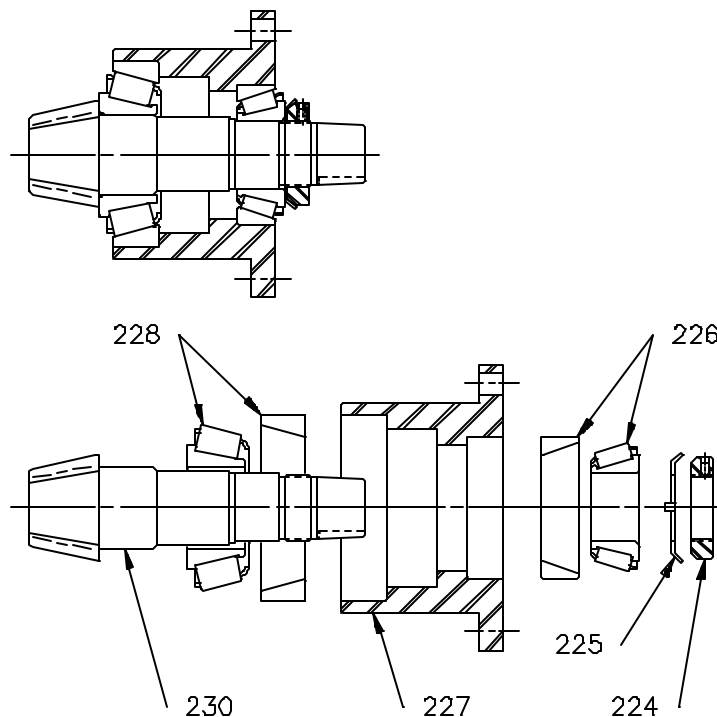

Figure 1: Spiral Bevel Pinion Cartridge Assembly [223]
7. Remove spiral bevel pinion cartridge assembly [223] (Figure 1, page 4) and shim set [236]. Keep the shim set intact for reference at assembly.
9. Loosen the (3) setscrews in locknut [208] two turns. Remove the locknut.